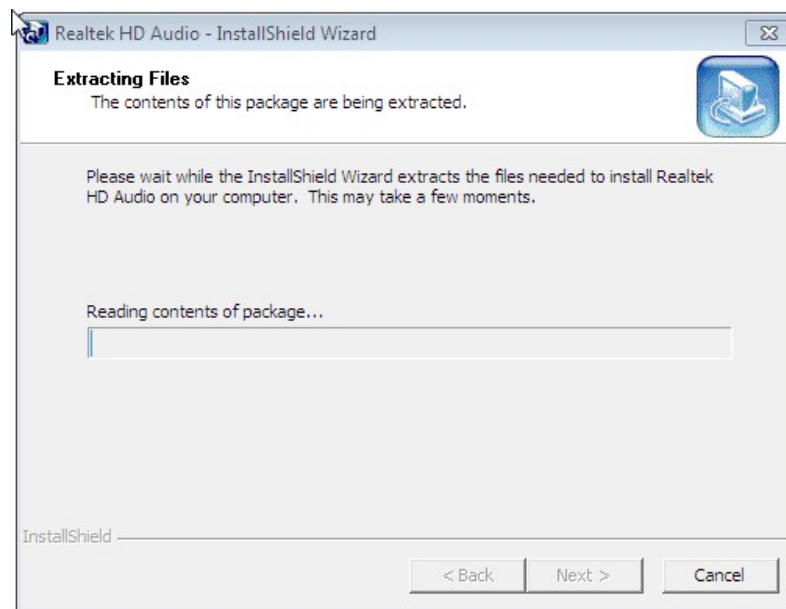

Figure 6-15: Audio Driver Installation File Extraction
Step 5: The installation files are extracted as shown in **Figure 6-15**.